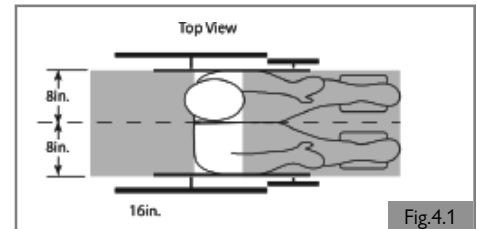

Fig.4.1
6. The recommended clear zones for wheelchair seated occupants restrained by both pelvic and upper-torso belt(s) and only by a pelvic belt are shown in the diagrams (Fig. 4.1 and 4.2) and described below. Frontal Clear Zones (FCZ) need to be larger when upper torso belt(s) are not used. The Rear Clear Zone of 16-in (40.5 cm) is measured from the rearmost point on an occupant's head. The Frontal Clear zone is measured from the front most point of an occupant's head and is 26-in (66 cm) with pelvic and upper-torso belt(s) and 37-in (94 cm) with only a pelvic belt. The frontal clear zone may not be achievable for wheelchair-seated drivers.